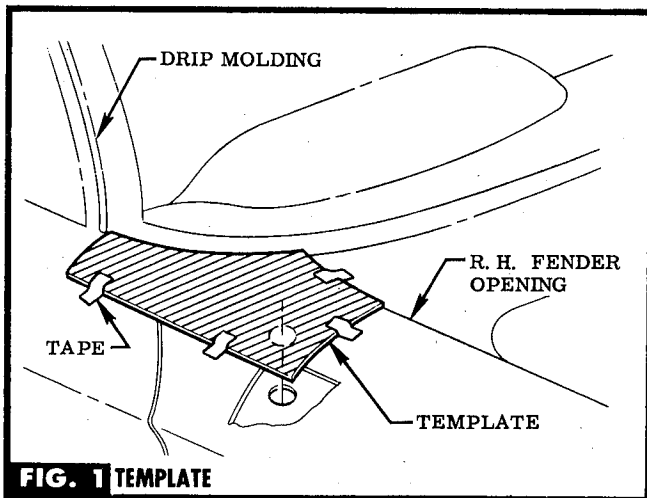

FIG. 1 TEMPLATE
STEP 1 ALIGN TEMPLATE ON R. H. FENDER & TAPE IN PLACE. CENTER PUNCH AS INDICATED ON TEMPLATE THEN REMOVE IT. SEE FIG. 1.